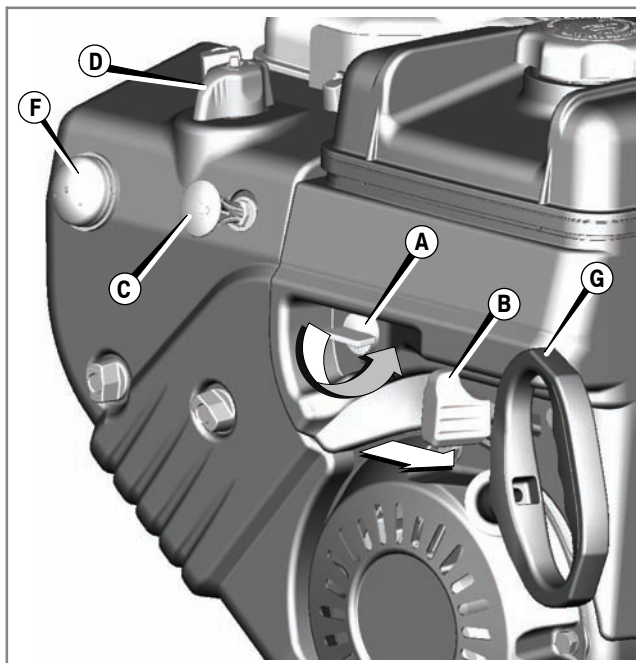

Figure 7
Move the throttle control lever (B), if equipped, to the fast  position (Figure 7). Operate the engine with the throttle control lever in the fast position.
4. Turn the fuel shut-off valve (A), if equipped, to the on position (Figure 7).
5. Push in the safety key (C).
6. Turn the choke control knob (D) to the choke  position.
7. Push the primer (F) two times. See Figure 7.
8. **Rewind Start:** Firmly hold the starter cord handle (G, Figure 7). Pull the starter cord handle slowly until resistance is felt, then pull rapidly.